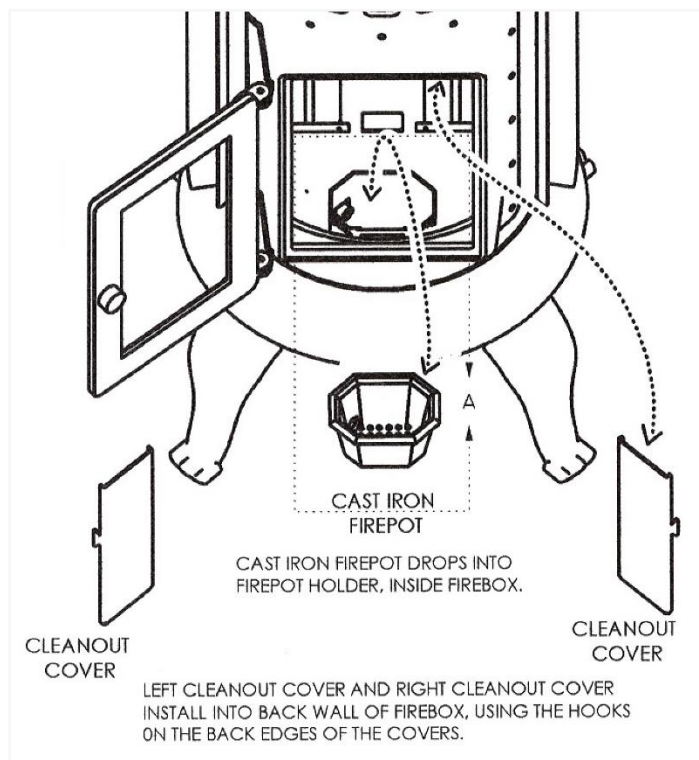

FIGURE 14
- b. When the heater is shut down and cold, you should open door and remove clean out cover. To remove, simply lift up and out from retaining notched cutout on vertical wall (see Figure 14). Clean one side at a time. With one cover removed, leave the door open 1" and push the "Clean" button. Let heater run 30 seconds, push to "Off," and replace cover. Remove the remaining clean out cover and repeat procedure for other side.
2. **Cleaning the Exhaust Fan Blade & Heat Exchanger:** The exhaust blower should be checked for excessive fly ash buildup. Regular and routine maintenance utilizing the clean out feature will keep the exhaust blower housing and fan blades clean. This cleaning can only be done when the heater is not burning. For best results, run the fan in the "Clean" position with the door open for approximately 45 seconds or until ash is no longer being picked up by the fan. Remember, you must always check the clean out cap on the tee after utilizing the clean feature (see Figure 14).
pellet and clinkers (fused ash and dirt) form in the bottom of the fire pot and chock the air intake, you might consider changing the brand of pellets to one that burns cleaner. You must let the fire go out before removing and cleaning the fire pot. Never vacuum out the heater when the heater is in operation! The hot ashes can lodge in your vacuum cleaner and cause a fire! You must clean the heat exchanger manifold (see Figure 14) regularly to ensure a good air to fuel ration, thus allowing the heater to "breathe" properly. You must also check the tee and vent pipe to see that they are not clogged and full of ash.